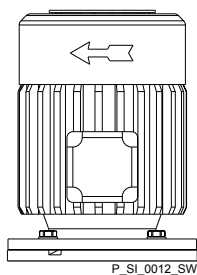

Fig. 15: Direction of rotation of motor
- When connecting the motor, pay attention to the correct direction of rotation indicated by the arrow on the fan cover, as shown in Fig. 15.